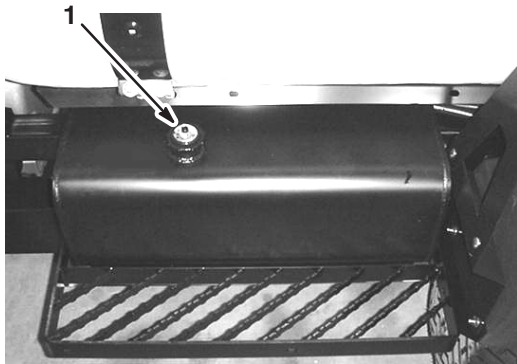

Figure 4
3. Clean the area around the fuel tank cap (Fig. 4).